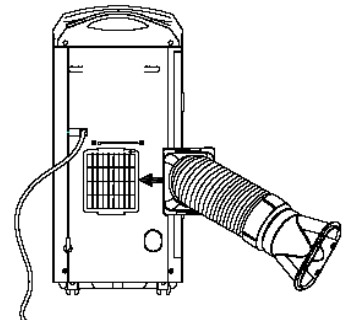

Fig. 2
- Fix the exhaust hose adapter to the air outlet grille (11) at the back of the unit as shown in Fig. 2.